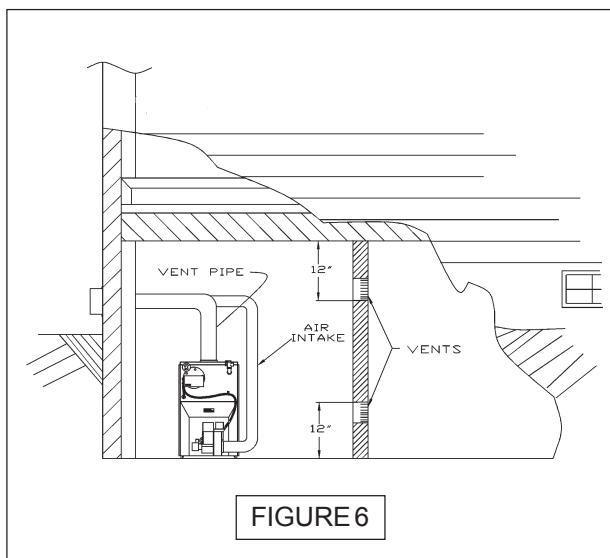

FIGURE 6
4. When air for combustion and ventilation is from inside buildings, the confined space shall be provided with two permanent openings, one starting 12 inches from the top and one 12 inches from the bottom of the enclosed space. Each opening shall have a minimum free area of 1 square inch per one thousand (1000) BTU per hour of the total input rating of all appliances in the enclosed space, but must not be less than one hundred (100) square inches. These openings must freely communicate directly with other spaces of sufficient volume so that the combined volume of all spaces meets the criteria for an unconfined space. See figure 6 below.